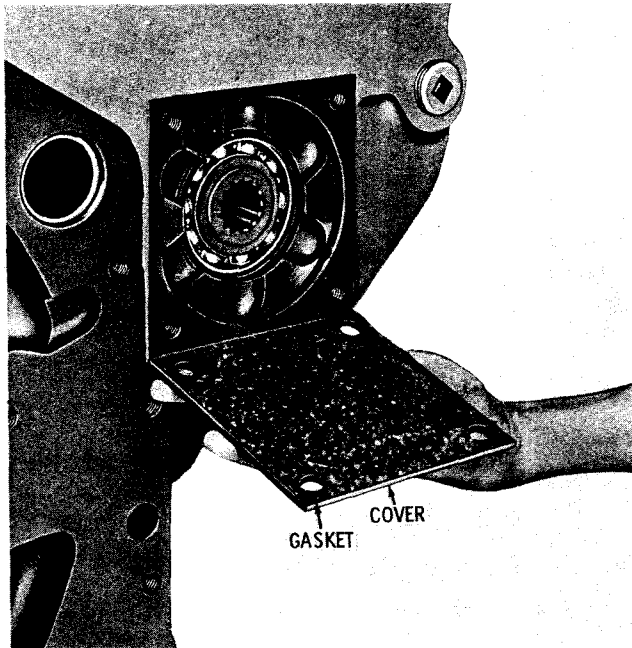

Fig. 7-34. Installing accessory pad cover
(6) Install the accessory pad cover gasket and cover (fig. 7-34). Secure the cover with four 1/2-13 x 1 1/4-inch bolts, with lock washers. Tighten the bolts to 67 to 80 pound feet torque.
(7) If ball bearing 34 (A, foldout 6) was removed from gear 33, install it and retain it with snap ring 35. Install spindle 32 into the bore of bearing 34 at the side opposite snap ring 35.